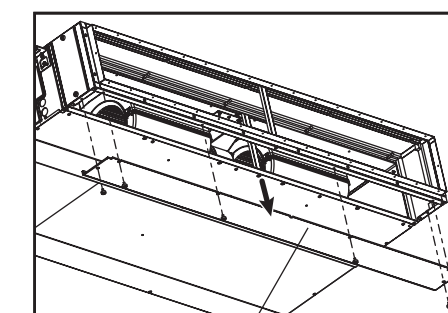

Fig.4-2-1
- (1) Remove the under panel from the filter box. (Fig. 4-2-1)